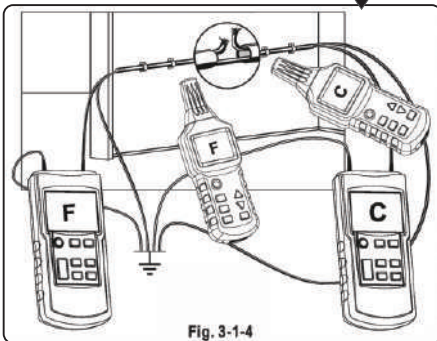

Fig. 3-1-4
- All lines not being used must be connected to the auxiliary earth as shown in Fig. 3-1-4.
- Connect both transmitters as shown in Fig. 3-1-4.
If the transmitters are connected in accordance with Fig. 3-1-4, the receiver indicates Con on the left side of the line interruption. If the receiver goes beyond the interruption position towards the right, it will display F. If you are directly above the interruption, no line code is displayed, due to the overlapping of both transmitter signals.